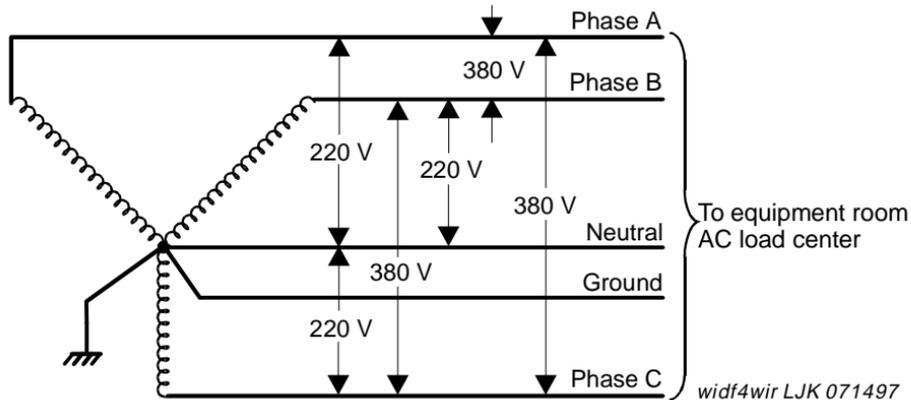

Figure 20. International, Three Phase, 220/380 VAC, 50-Hz Source
- International 5-wire, Y, 220/380 VAC. See Figure 20.